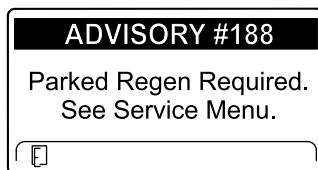

Figure 41
- Parked regeneration required ADVISORY #188 (Figure 41)